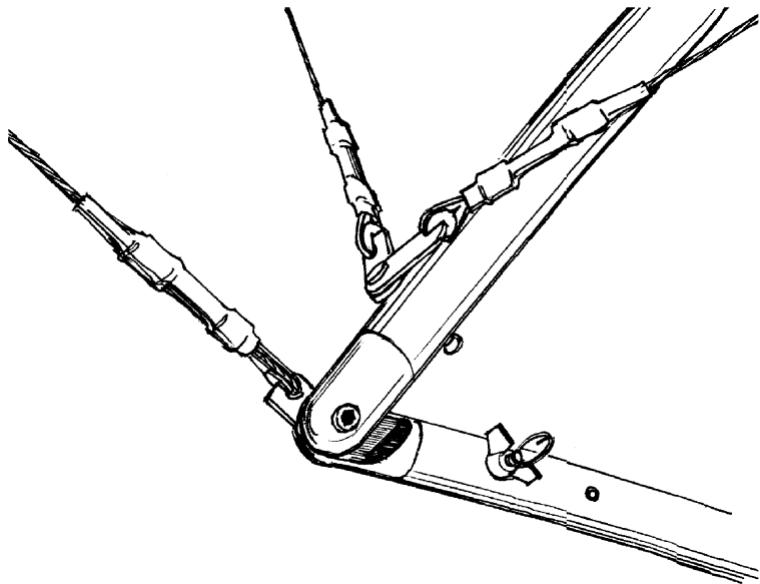

Fig. 3
If your glider is supplied with wheels, secure wheels on the speedbar now. Fix the speedbar using the bolts, wing nuts and the safety rings (Fig. 3) or use quick-pins.
2.2.2. Remove the safety bag from the downtubes. Spread the downtubes. Install the speedbar so that offset of the speedbar is directed forward and upwards to the flight direction. Fix each end of the speedbar using the bolt, the wing nut and the safety ring or using quick pin (see Fig. 3).